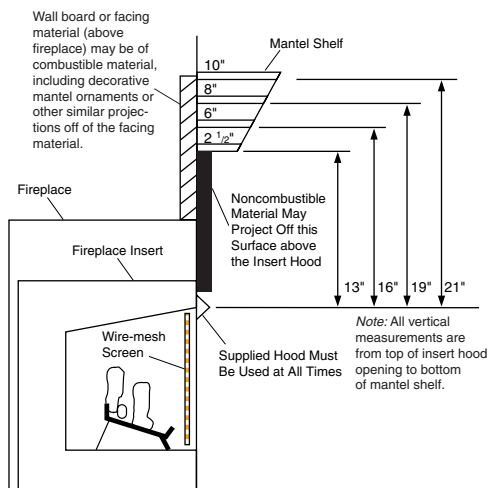

Figure 12 - Minimum Mantel Clearances for Fireplace Insert Installation
- A. Clearances from the side of the fireplace cabinet to any combustible material and wall should follow diagram in Figure 12, page 12. Example: The face of a mantel, bookshelf, etc. is made of combustible material and protrudes 3 1/2" from the wall. This combustible material must be 4" from the side of the fireplace opening (see Figure 11).
If there is a mantel above masonry fireplace, you must meet minimum clearance between mantel shelf and top of fireplace opening (see Figure 12, page 12).
Installation of this fireplace insert involves installing fireplace insert into an existing masonry fireplace. If using a mantel above the fireplace, you must follow the clearances shown in Figure 12, page 12. Follow the instructions below to install the fireplace insert in this manner.